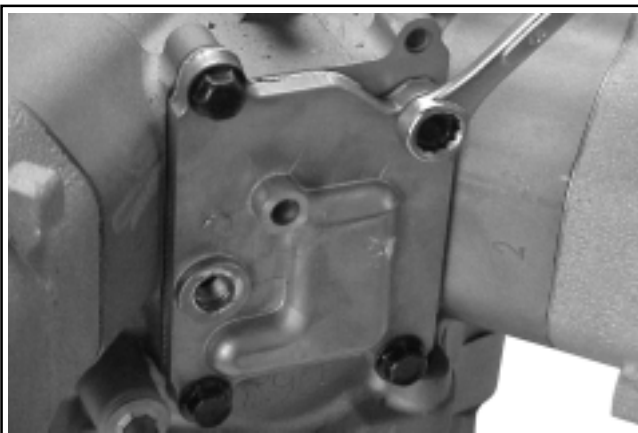

Figure 9-58. Removing Breather Cover Screws.
1. Remove the four hex. flange screws securing the breather cover to the crankcase. See Figure 9-58.